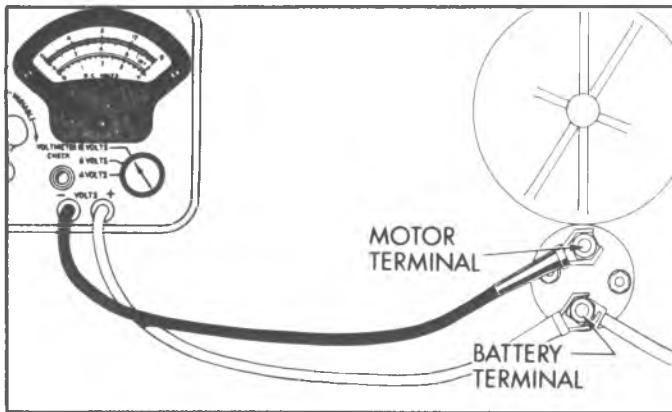

Fig. 15s—Solenoid Switch Contact Test Connections
- terminal of solenoid switch, and connect positive lead to battery terminal of switch (Fig. 15s).